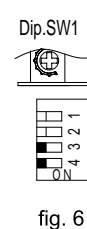

fig. 6
15. IMPORTANT: Set dip switches No's 3 and 4 of the SW1 set of dip switches to 'OFF' to return the appliance to 'Normal' combustion. (fig. 6)